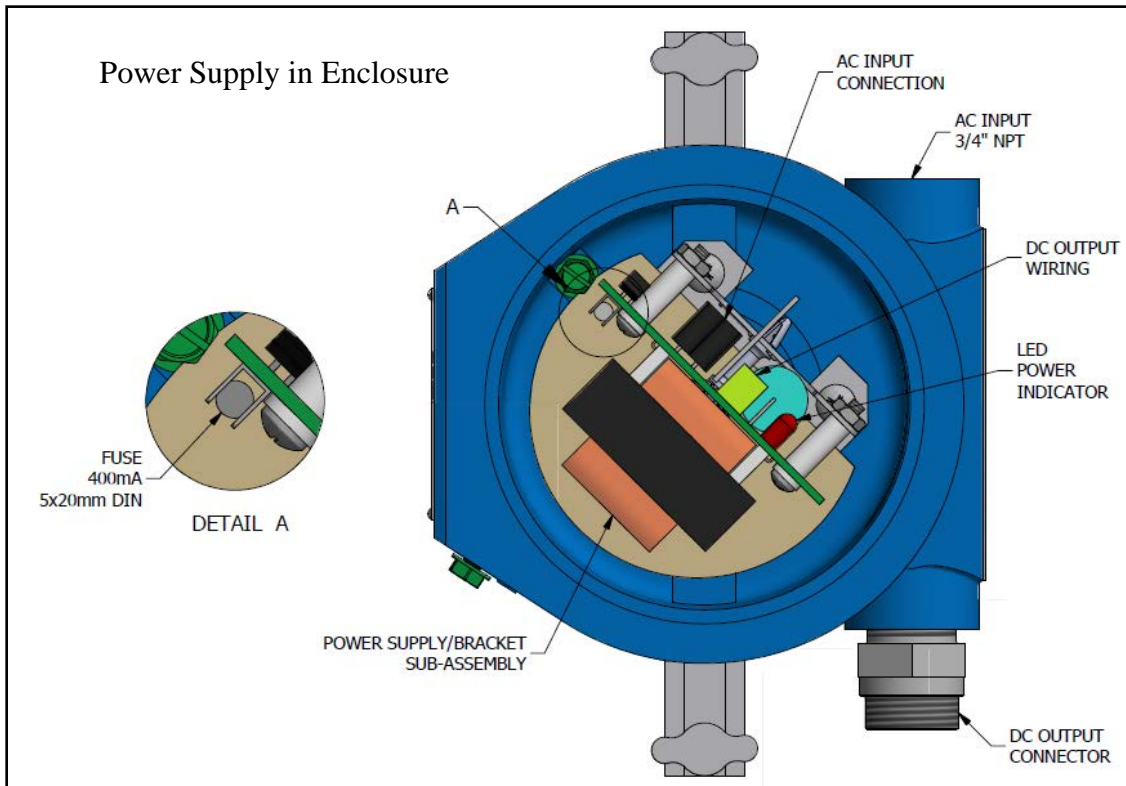

Figure 2
- 4) Open the cover of the power supply housing. Insert the AC Line wires into the housing and connect to the “AC IN” terminal block. A ground screw is located inside the enclosure if required. **CAUTION:** The DC output is pre-wired. If this connection is removed during installation, reconnect the “AC IN” and “DC OUT” to the proper positions. Failure to do so will result in permanent damage to the power supply. (Ref. Figure 2 on next page)